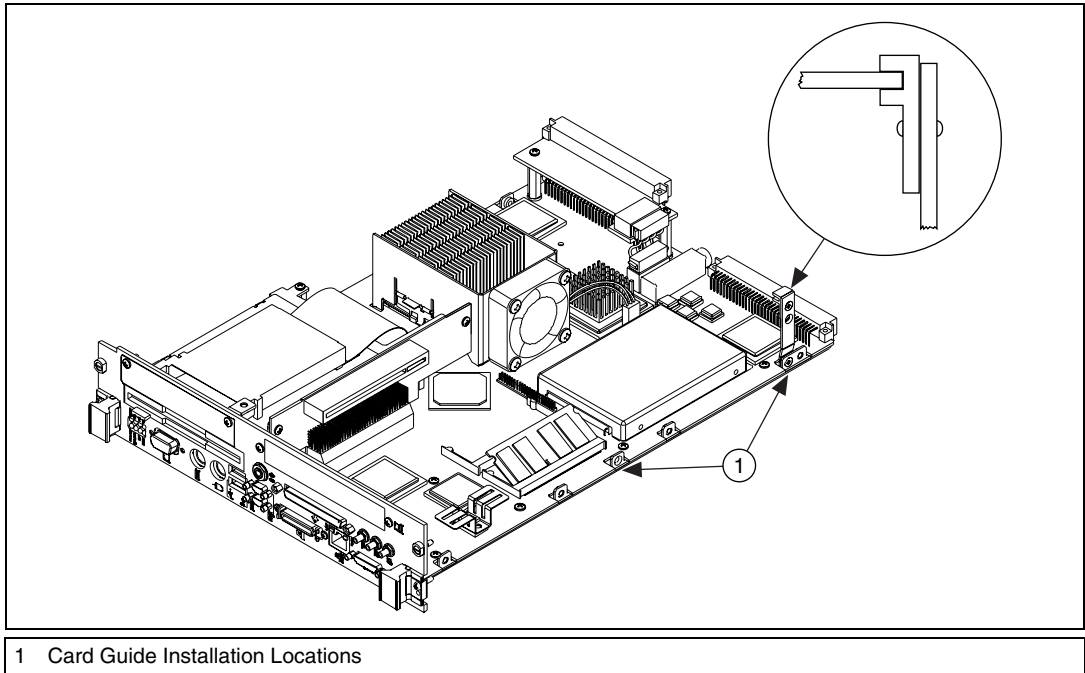

Figure B-2. Card Guide Configuration and Location for a PCI Expansion Card in a VXIpc-872B
1. Notice that the VXIpc-872B includes one card guide to secure the top of a PCI plug-in board. You may use the card guide in either of two locations, depending on the length of your installed board. Loosen the screw holding the guide and rotate the guide to the uppermost position for PCI boards. See Figure B-2.